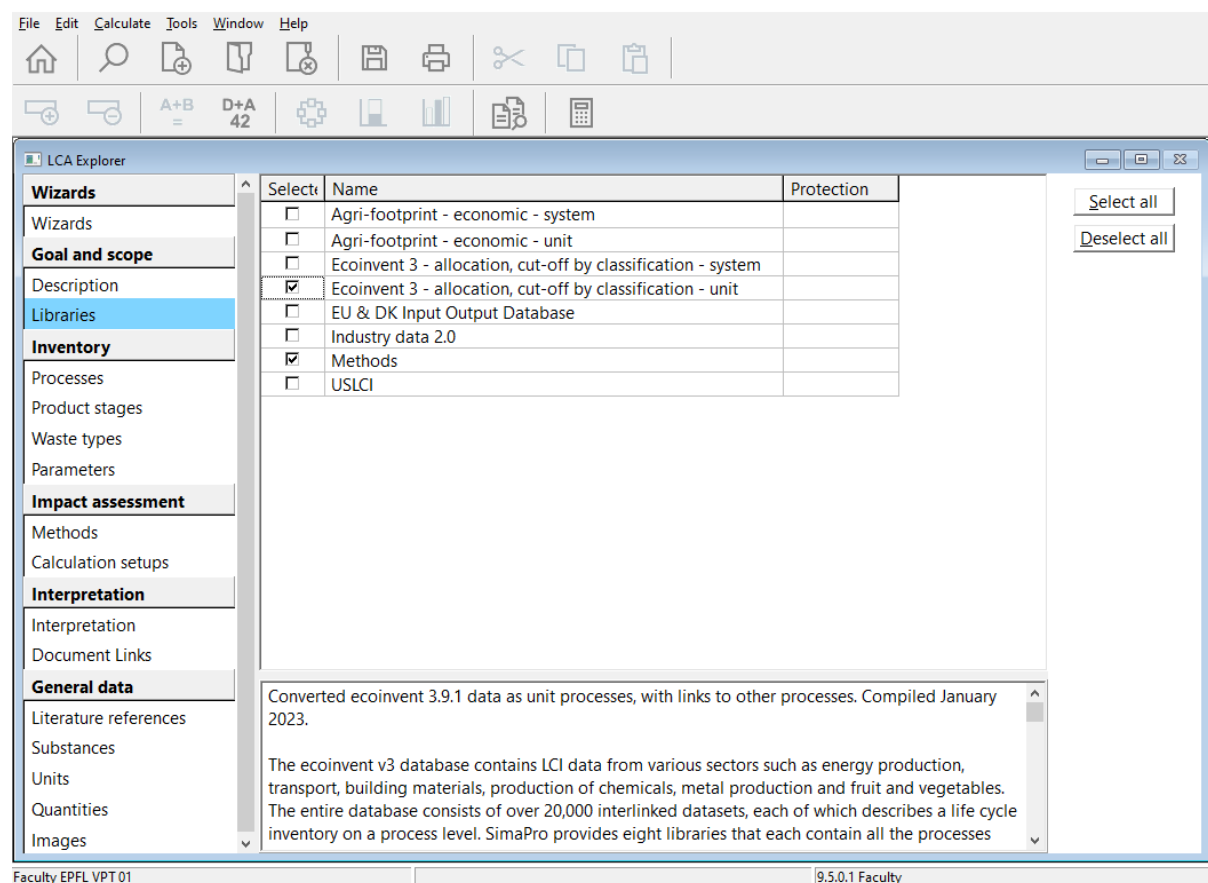

Figure 3 - Libraries
1. **Goal and Scope:** You can define the authors, the purpose of the study, etc. It may be useful to fill in the **Author** and **How** fields. In "Libraries" you can select the data libraries you want to work with (Figure 3).